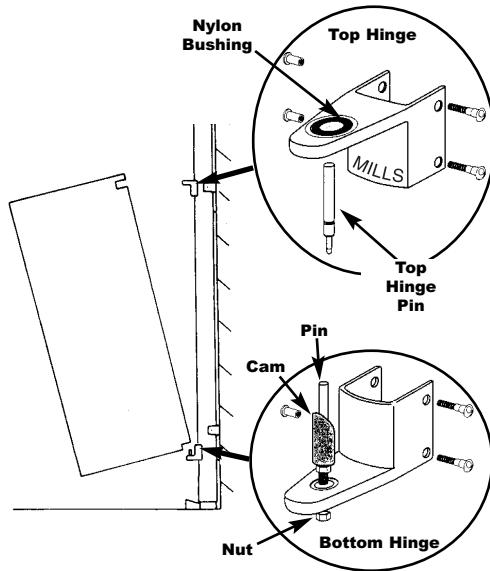

FIGURE 7
B. Install pin thru cam to bottom hinge as shown in figure 7.